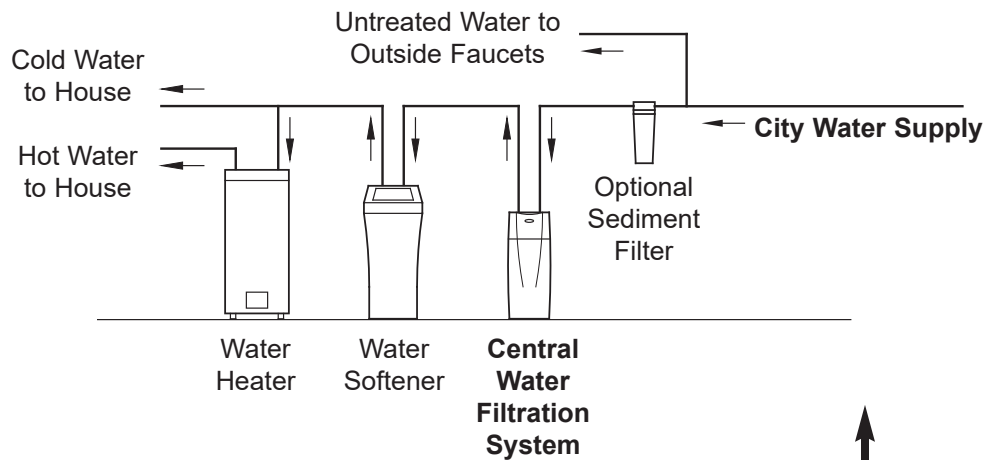
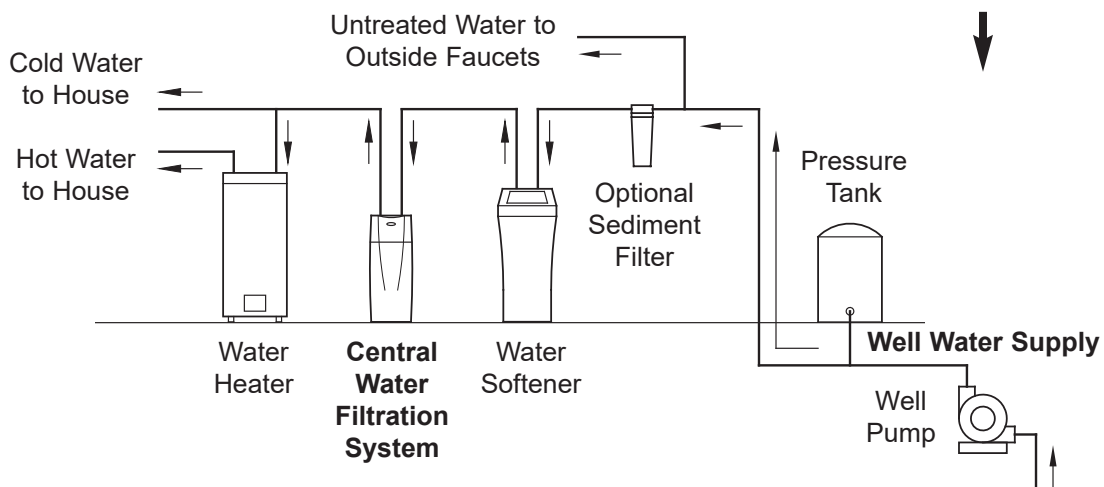

FIG. 3A
FIG. 3B
- For a home with municipal water supply, install the Central Water Filtration System between the home's incoming water supply and the water softener, if one is being used (See Figure 3A). If the home has well water, reverse the order of the Central Water Filtration System and the water softener (See Figure 3B).
- Do not install the Central Water Filtration System on a hot water line (See Figures 3A & 3B, below).